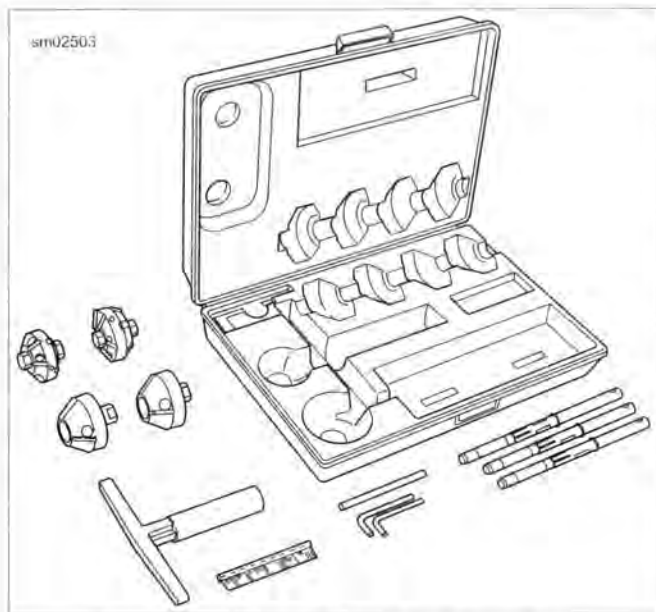

Figure 3-45. Newway Valve Seat Cutter Set
10. See Figure 3-45. Obtain the NEWAY VALVE SEAT CUTTER SET (Part No. HD-35758-C). Choose the cutter pilot that fits properly into the valve guide hole. Securely seat the pilot by pushing down and turning using the installation tool supplied in the tool set.